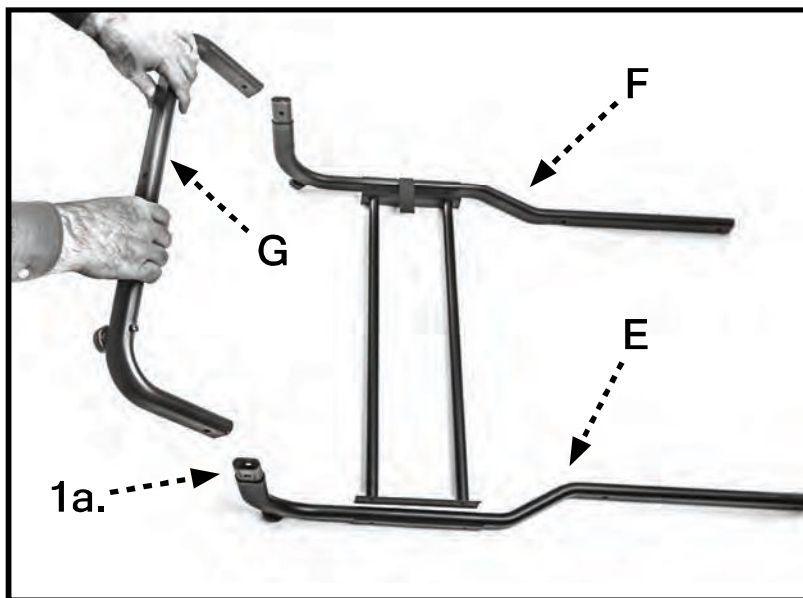

FIGURE 1
Layout the left and right support rod assemblies (E&F) and the cross connect rod assembly (G) as shown in Figure 1.